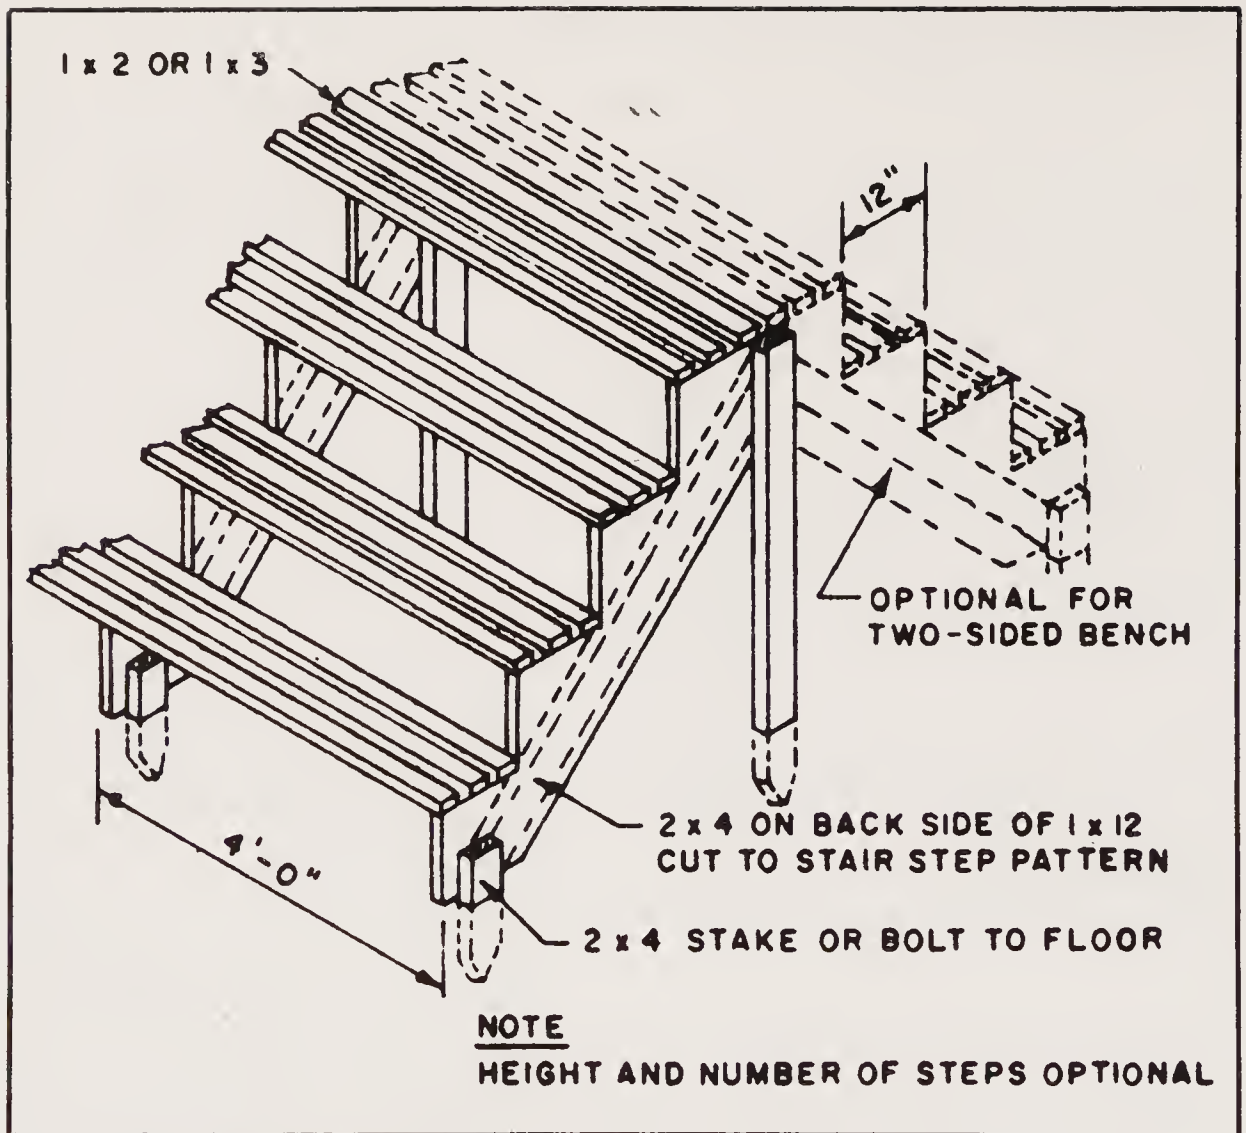

Fig. 1-32. Wooden step bench.
**Wooden Step Bench.** The wooden step bench, as shown in Fig. 1-32, can be constructed any size, width, angle or height to